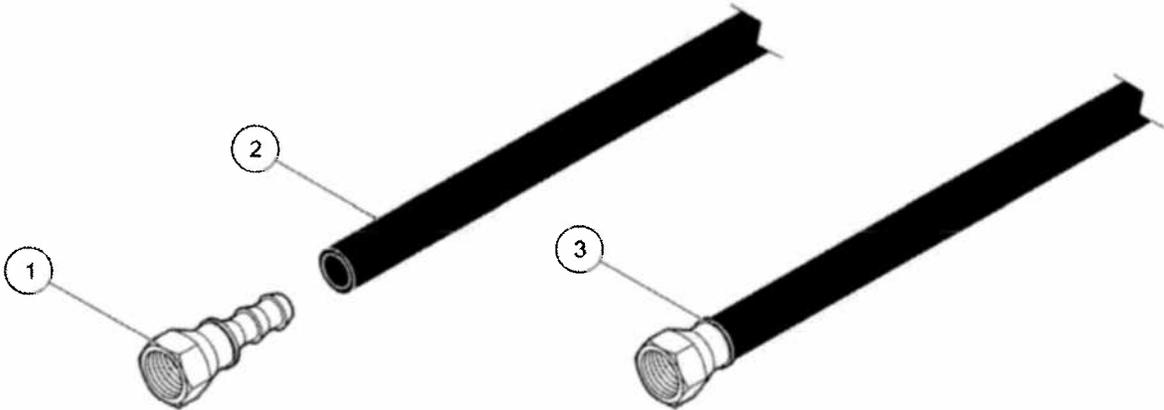

Figure 12 Straight hose barb (female) installation
1. Remove one pair of Extend (E) and Retract (R) port plugs from the hydraulic ports on the side of the HSC for each wiper group found in section 1.2 of the Controls Philosophy.
4. Remove the protective caps from the Extend (E) and Retract (R) ports of the HSC.
5. Connect a female straight hose barb to one end of the hydraulic black extend hose and another female straight hose barb to one end of the hydraulic blue Retract (R) hose closest to the HSC (section 6.3.1 and Figure 12 on page 29).
Refer to Figure 12 for installation of the hose barb fittings.